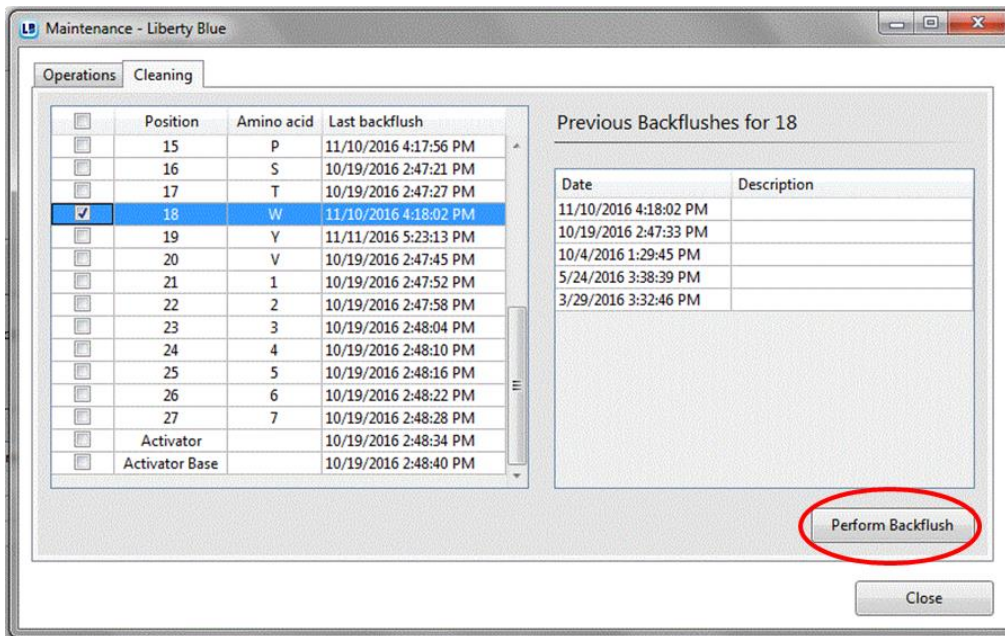

Figure 18. Backflushing cleans the lines with DMF and nitrogen before adding fresh solutions.
- a. Open the *Options* ⇒ *Maintenance* ⇒ *Cleaning* and check the positions of AA's to be added. Click *Perform Backflush*. This will clean the line with a little DMF and flush the line with nitrogen. (Figure 18)